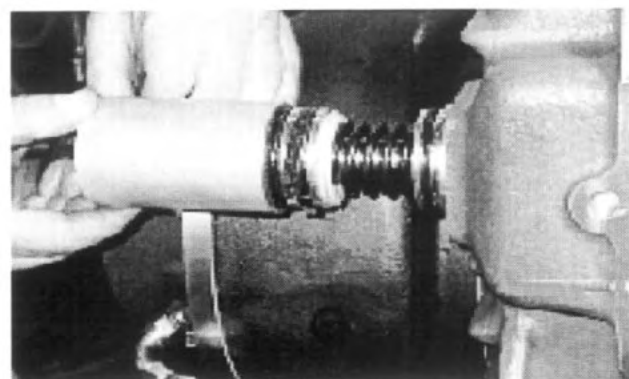

Fig. 8
10. Gently rock the cylinder to and fro to aid in removing the bottom portion of the air shift cylinder. *See Fig. 8.*